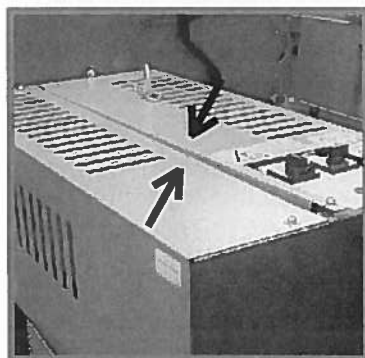
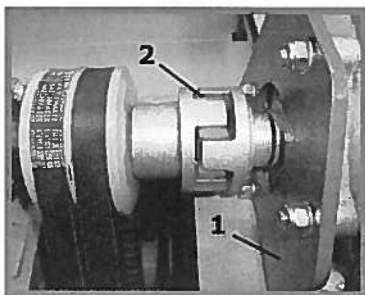

Fig. 9
Fig. 10
To replace a worn-out belt: Dismount and remove the steel plate casings (Fig. 9) on the left side of the saw blade. Undo the twelve head cap screws (M6x25) used for fixation of the casings (6 screws per casing). Release the hex-nuts of each adjustment screw (Fig. 10) lift the gear case up and pull the belts off the pulleys.
Release the screws holding the pump bracket and remove pump and bracket assembly from the upper protector (pump and bracket must come off together). (see pos. 1, Fig.10). Remove the V-belt and fit a new one on the special pulleys. Secure the pump bracket (with the pump on it) back onto the upper protector making sure to provide approx. 2-3 mm gap between the two coupling halves. Also check that the coupling halves are perfectly lined up to each other.